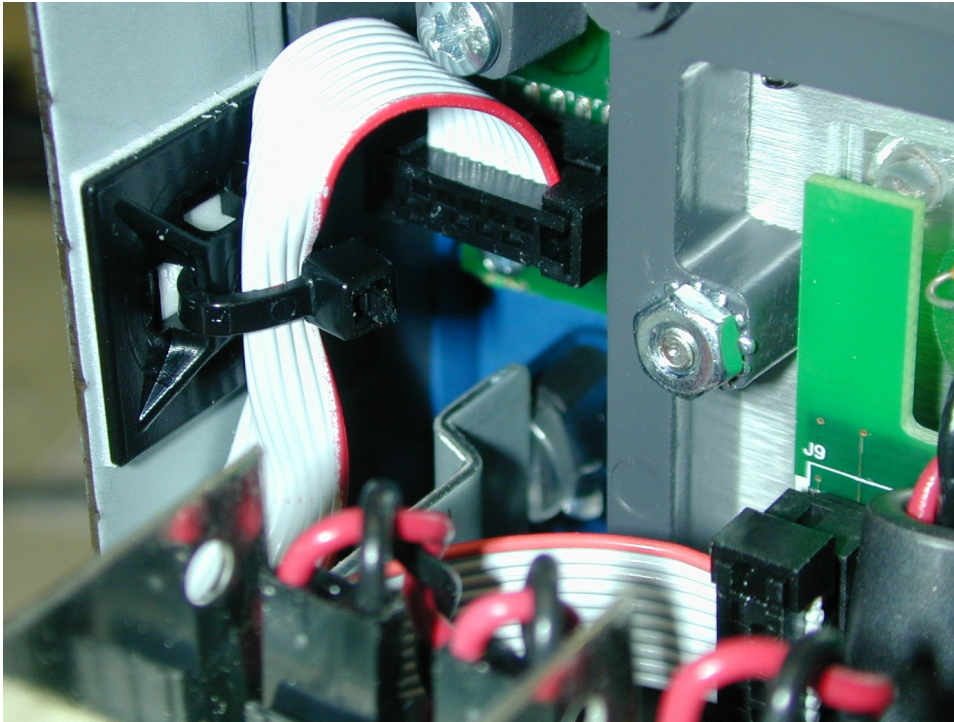

Fig 1 Power indicator LED cable secured by new cable tie and block.
4. Remove the backing paper from the cable tie block (5611.0004) and affix it to the instrument side rail as shown in Figure 1.
5. Attach the cable tie (5611.0003) around the ribbon cable as shown in Figure 1. Do not overtighten the tie. Cut off any excess.